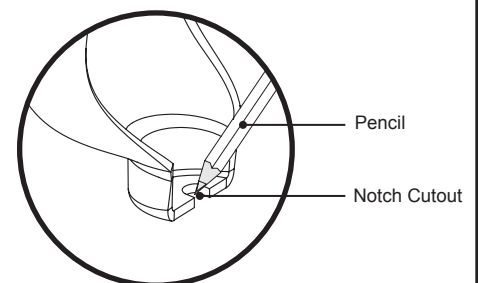

Figure 9. Mounting Hole Mark
- 2 Using a pencil, mark on the ground where the notch cutout is on the inside of each ball and claw foot (Figure 9). This will be where the mounting hole will be drilled in the floor. Repeat this step for the remaining locations.